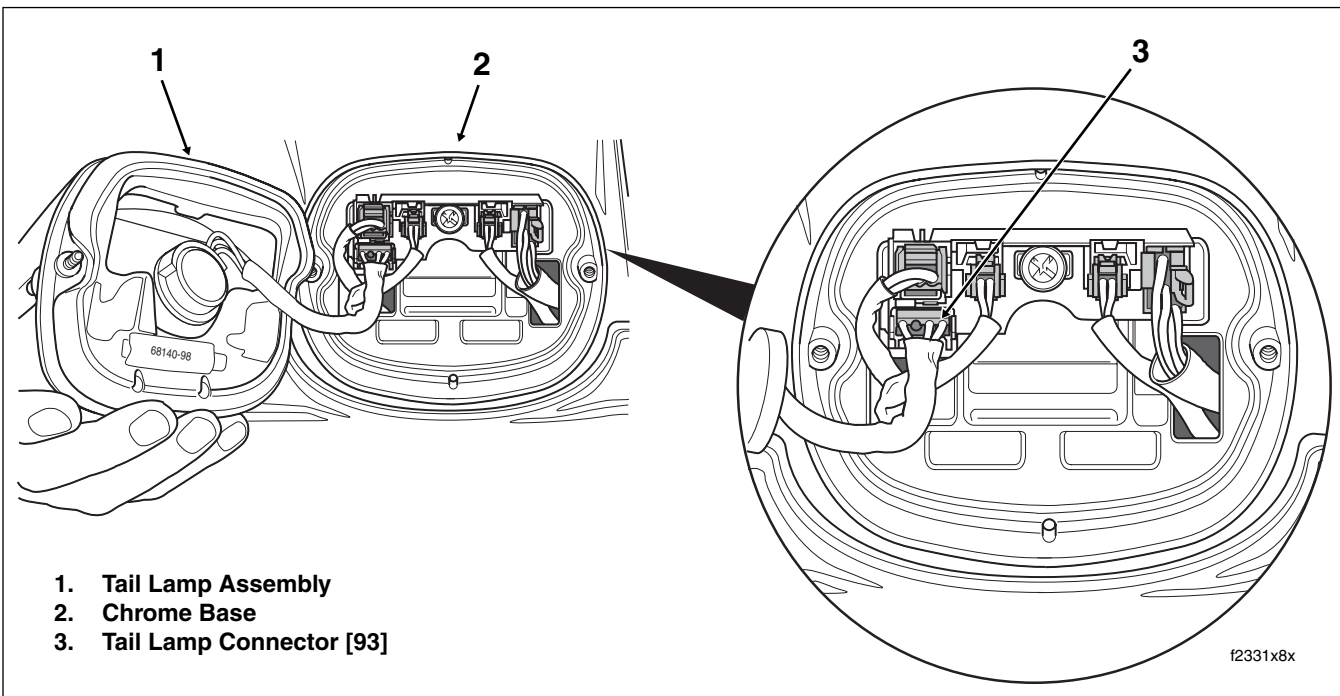

Figure 8-40. Remove Tail Lamp and Depress Button to Release Socket Housing
1. Remove two Phillips screws from lense to release tail lamp assembly from chrome base. See left side of Figure 8-40.
2. Disconnect tail lamp connector [93], 4-place Multilock. See right side of Figure 8-40.
2. Connect tail lamp connector [93], 4-place Multilock. See right side of Figure 8-40.
1. Remove two Phillips screws to release tail lamp assembly from chrome base. See left side of Figure 8-40.
7. To avoid stressing wires, verify that tail lamp conduit is positioned on the outboard side of the rear fender tip lamp and left turn signal lamp conduit as shown in Figure 8-40.
2. Remove two Phillips screws to release tail lamp assembly from chrome base. See Figure 8-40.
7. To avoid stressing wires, verify that tail lamp conduit is positioned on the outboard side of the rear fender tip lamp and left turn signal lamp conduit as shown in Figure 8-40. Place tail lamp into position against chrome base.